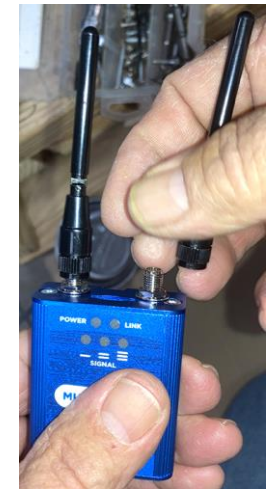
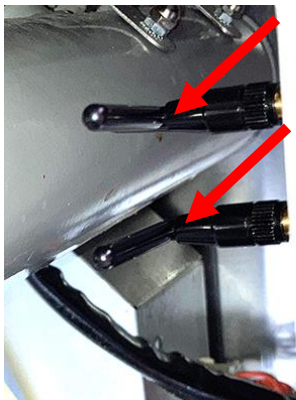

Figure 15
Figure 16
15. If antenna extensions were used, disconnect the extensions and connect antennas directly to the modem if possible (see Figure 15). Ensure the antennas are parallel to each other (see Figure 16).